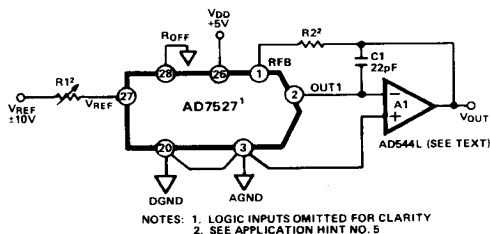

Figure 11. Unipolar Binary Operation (2-Quadrant Multiplication)
Figure 11 shows the analog circuit connections required for unipolar binary (2-quadrant multiplication) operation. The logic inputs are omitted for clarity and the AD7527 offset input, R_{OFF} (pin 28), is tied to AGND. With a dc reference voltage or current (positive or negative polarity) applied at pin 27, the circuit is a unipolar D/A converter. With an ac reference voltage or current the circuit provides 2-quadrant multiplication (digitally controlled attenuation). The input/output relationship is shown in Table 2. When an offset voltage V_{OFF} is applied to pin 28, an extra term $-V_{OFF}$ is added to the analog output, V_{OUT} , of Table 2. To keep feedthrough to a minimum it is recommended that pin 28 be returned to a low impedance point, either AGND or an op-amp output.
Table 2. Unipolar Binary Code Table for Circuit of Figure 11
- 4. FEEDTHROUGH:** The dynamic performance of the AD7527 will depend upon the gain and phase stability of the output amplifier, together with the optimum choice of PC board layout and decoupling components. A suggested printed circuit layout for Figure 11 is shown below which minimizes feedthrough from V_{REF} to the output in multiplying applications.
- 5. GAIN TEMPERATURE COEFFICIENTS:** The gain temperature coefficient of the AD7527 has a maximum value of $5 \text{ ppm}/^\circ\text{C}$ and a typical value of $2 \text{ ppm}/^\circ\text{C}$. This corresponds to worst case gain shifts of 0.51LSBs and 0.2LSBs respectively over a 100°C temperature range. When trim resistors are used to adjust full scale range as shown in Figures 11, 12 and 13, the temperature coefficients of the trim resistors should also be taken into account. It may be shown that the additional gain temperature coefficients introduced by R_1 and R_2 may be approximately expressed as follows: